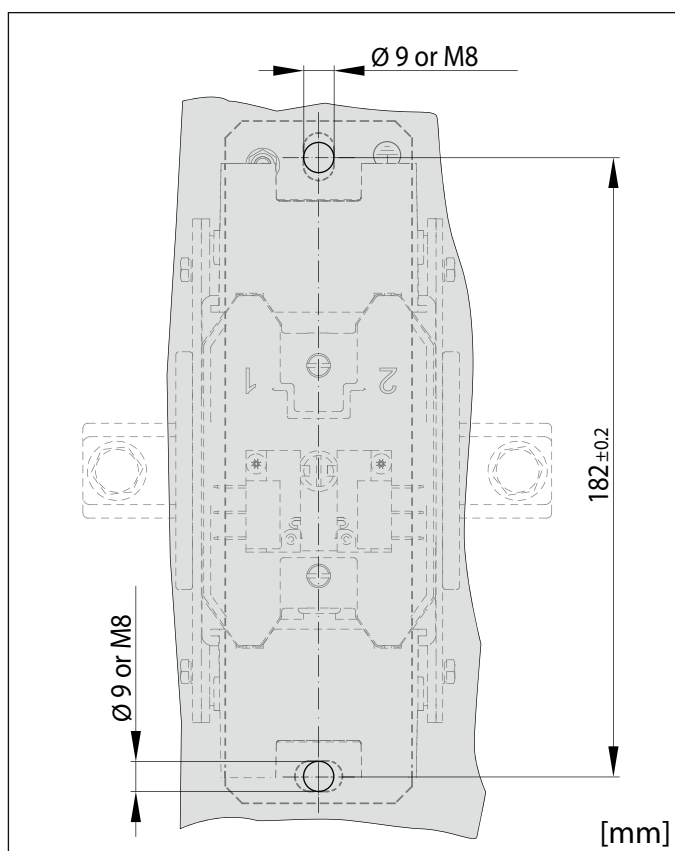
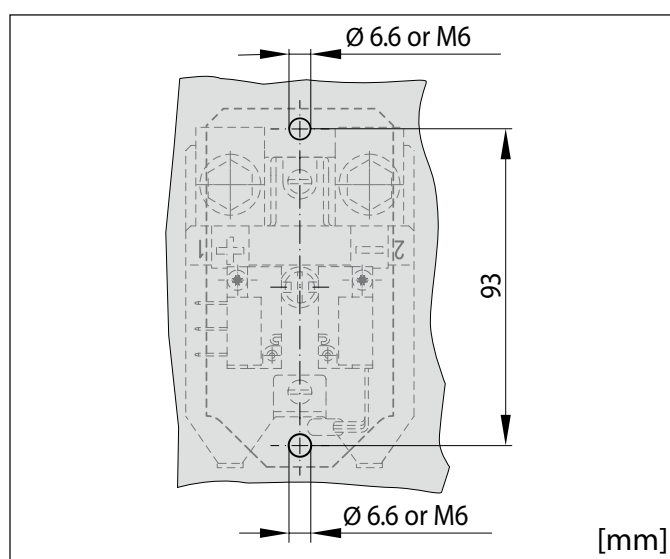

Fig. 9: C195 X:/ Dimensions and layout of mounting holes
Fig. 11: C195 S/, C195 T/, C195 W/: Dimensions and layout of mounting holes
- ▶ Mounting holes must be prepared on the mounting plate or frame according to the following dimensional drawings (Fig. 9 to Fig. 11).